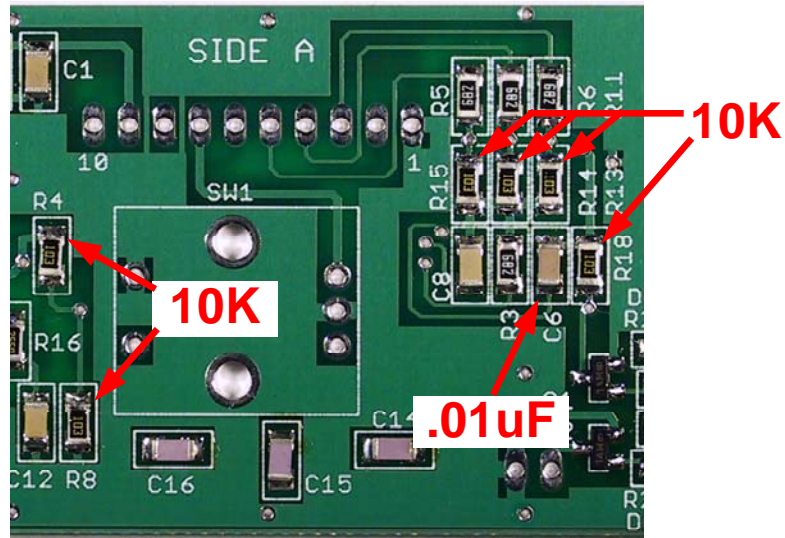

Figure 10. C6, 10K Resistor Locations
- Remove one of the 0.01uF capacitors from top compartment, save the other for Side B. The film covering this part is **BLUE**. Install it at C6, as shown in **Figure 10**.
- Remove the strip of 10K resistors from the resistor compartment. These are marked 103. Refer to **Figure 10**. Install them at: